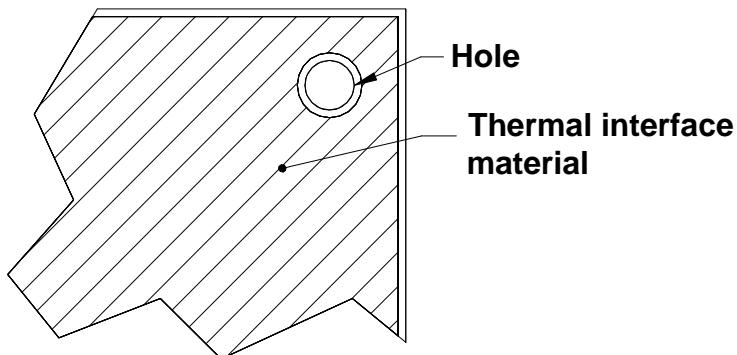

Figure 1 - Thermal Pad Design
- Thermal interface material: Due to the flatness irregularities of both the heatsink and power module baseplate, a thermal interface material must be used between the heatsink and the power module baseplate to minimize the thermal contact resistance. A conformal thermally conductive interface material or pad is required to fill the gaps. The pad should be between 0.005 to 0.008 inch thick and have a minimum thermal conductivity of 2 W/m-K. We suggest 0.005 inch thick Berquist QPAD3 thermal interface material. The interface material should completely surround the mounting hole/slot (see Figure 1). Pad clearance hole diameter should be 1.02 mm (0.040 inch) larger than heatsink/cold plate mounting hole. This will prevent excessive flexing of the base plate when torqueing in screws. Thermal grease is not recommended for the thermal interface material.